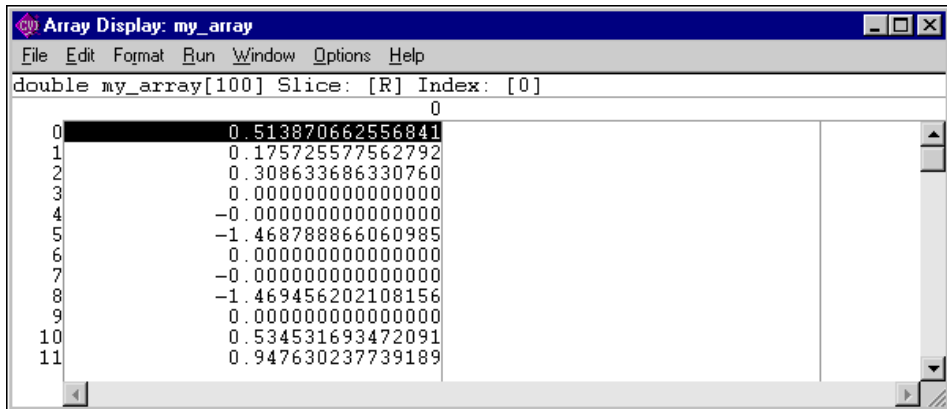

Figure 4-3. Array Display
3. In the Variables window, double-click `my_array`. The display shown in Figure 4-3 appears on your screen.
The Array Display shows the values of array elements in tabular format. In Figure 4-3, the array `my_array` is a one-dimensional array, so the display consists of one column of numbers. The numbers in the column on the left side of the display indicate the index number. The first element is zero (0).